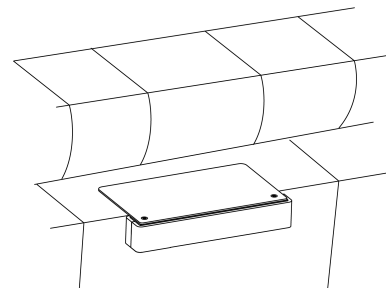

Figure 2
- 3) Place the stainless steel mounting plate between hardscape layers. Figure 2.